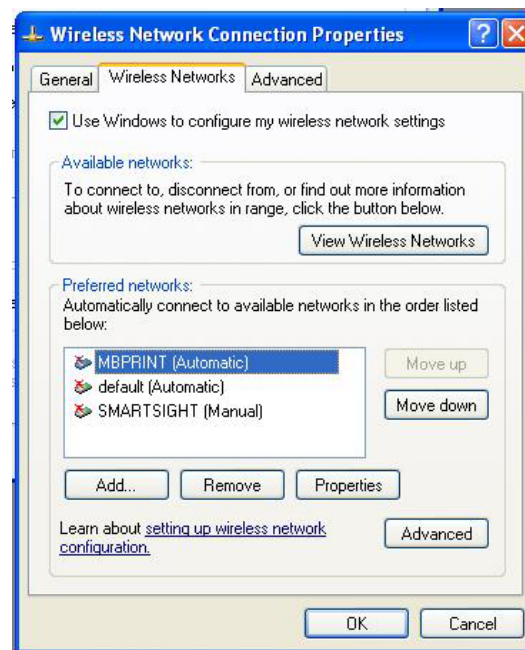

Figure 3-9, Wireless Network Connection Properties
6. When the Wireless Network Connection Properties Figure 3-9) screen reappears, click on the Add button to add a network matching that of the printer.
10. When the Wireless Network Connection Properties screen (Figure 3-9) appears, ensure that MBPRINT is displayed as the preferred network. If not, repeat steps 4 through 10.
16. When the Wireless Network Connection Properties screen (Figure 3-9) reappears, click on the OK button to exit.